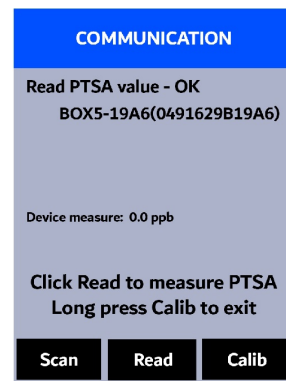

Figure 19.
9. When the connection is established, the SP-380 displays the latest PTSA measurement from the connected sensor (Figure 19).